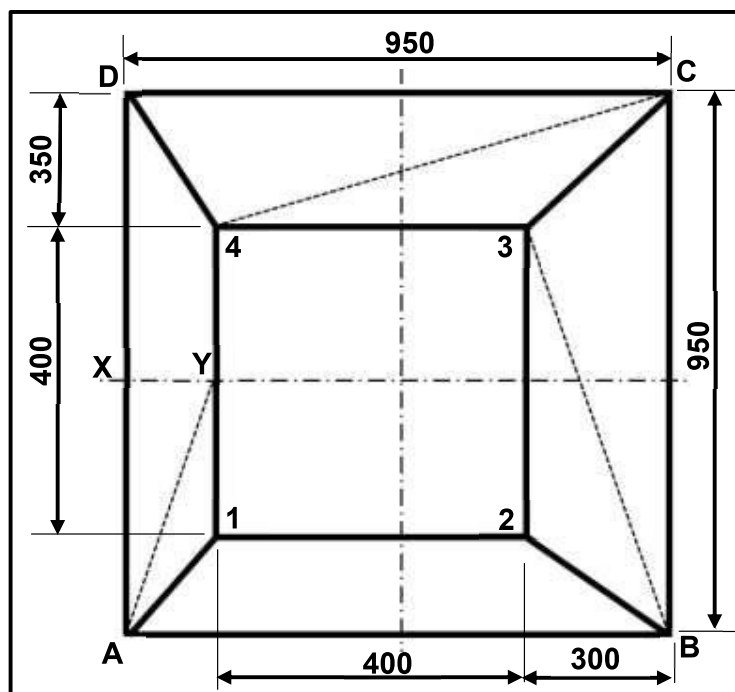

FIGURE 11.3
11.3 FIGURE 11.3 below shows a square-to-square off-centre hopper with a vertical height (VH) of 850 mm.